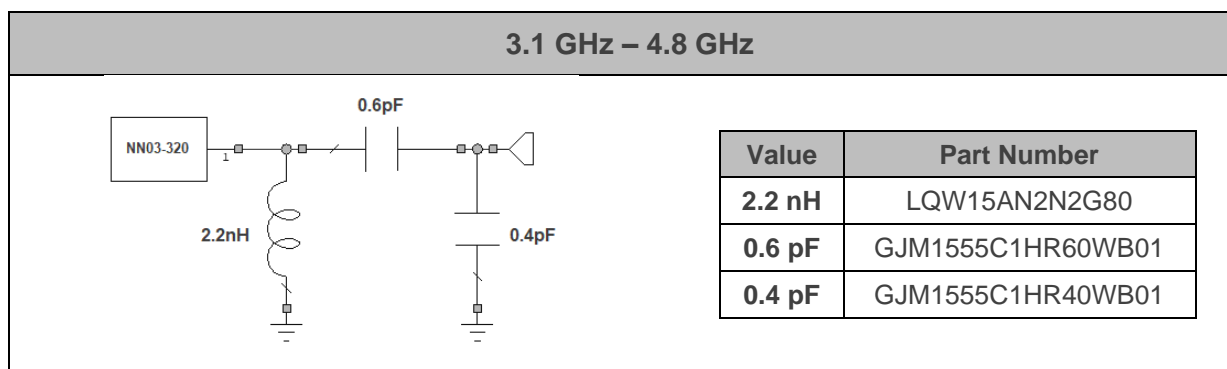
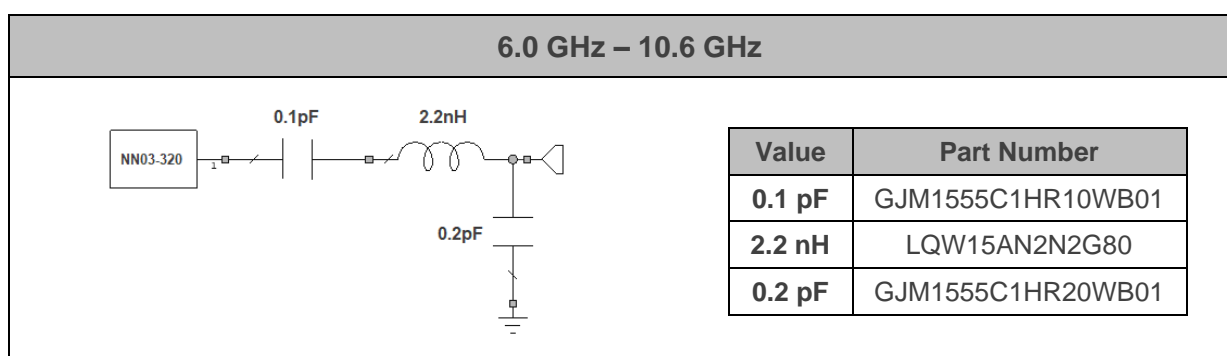

Figure 12 – Matching network implemented in the Evaluation Board (**Figure 11**) for covering the low frequency region from 3.1GHz to 4.8GHz.
Figure 13 – Matching network implemented in the Evaluation Board (**Figure 11**) covering the high frequency region from 6.0GHz to 10.6GHz.
The antenna performance is always conditioned by its operating environment. Different devices with different printed circuit board sizes, components nearby the antenna, LCD's, batteries, covers, connectors, etc. may need a different matching network. Accordingly, it is highly recommended placing pads compatible with 0402 and 0603 SMD components for a matching network as close as possible to the feeding point of the antenna element in the ground plane area, not in the clearance area. This provides a degree of freedom to tune the DUO mXTEND™ antenna booster once the design is finished and taking into account all elements of the system (batteries, displays, covers, etc.). To ensure optimal results, the use of high-quality factor (Q) and tight tolerance components is highly recommended (e.g. Murata components (Figure 12)).
Figure 14 – VSWR and total efficiency for the UWB LFR (3.1GHz – 4.8GHz) and for the UWB HFR (6.0GHz – 10.6GHz) from the Evaluation Board (Figure 11) with the matching networks gathered in Figure 12 (LFR UWB) and Figure 13 (HFR UWB), respectively. Simulated results obtained with CST.
Table 7 – Antenna gain and total efficiency from the Evaluation Board (Figure 11) for 3.1GHz – 4.8GHz with the matching network of Figure 12. Simulated results obtained with CST.